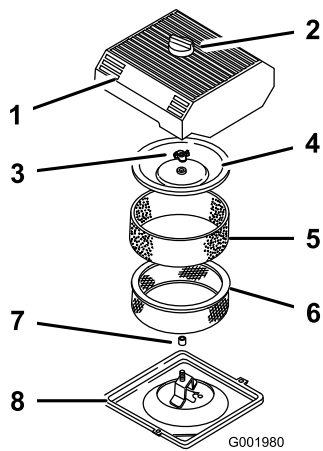

Figure 39
3. Clean around the air cleaner to prevent dirt from getting into the engine and causing damage (Figure 39).
- Loosen the knob on the air-cleaner cover and remove the cover (Figure 39).
- Carefully slide the foam element off the paper element (Figure 39).
- Unscrew the cover nut and remove the cover and paper element (Figure 39).
- Carefully slide the foam element onto the paper air-cleaner element (Figure 39).
- Install the cover nut finger-tight against the cover (Figure 39).
- Install the air-cleaner cover and knob (Figure 39).